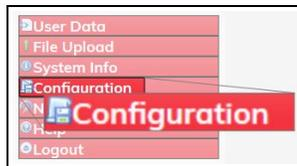

Figure 267: Configuration link
4. On the **Menu** list, click the **Configuration** link. Figure 267